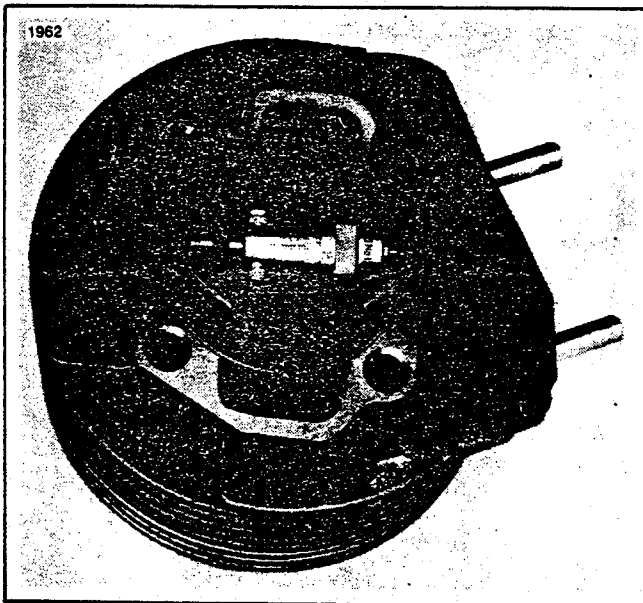

Figure 5-10. Measuring Cylinder 2 In. From Bottom
3. See Figure 5-10. Take cylinder bore measurement 2 in. from bottom of bore, measuring from front to rear, then left to right. Record the measurements.